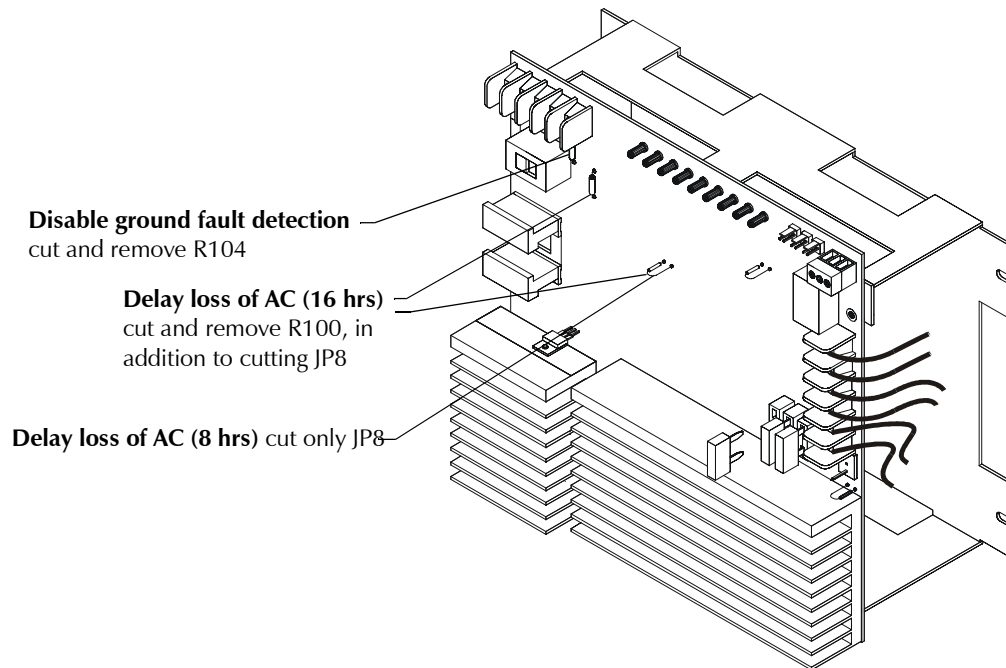
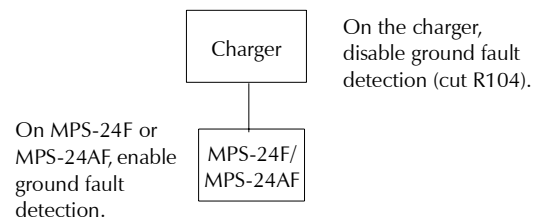

Figure 13 Configuring the Charger
Figure 14 Disabling Ground Fault Detection
Figure 13 shows how to configure the charger for delaying the loss of AC reporting and for disabling ground fault detection:
- 8-hour delay – Cut and remove jumper JP8 on the charger (Figure 13).
- 16-hour delay – Cut jumper JP8; then, cut and remove resistor R100 (Figure 13).
Disable Ground Fault Detection - To disable local (charger) earth fault detection, cut and remove resistor R104 (Figure 13). Figure 14 contains a simplified block diagram that shows ground fault detection disabled on a charger connected to a power supply: